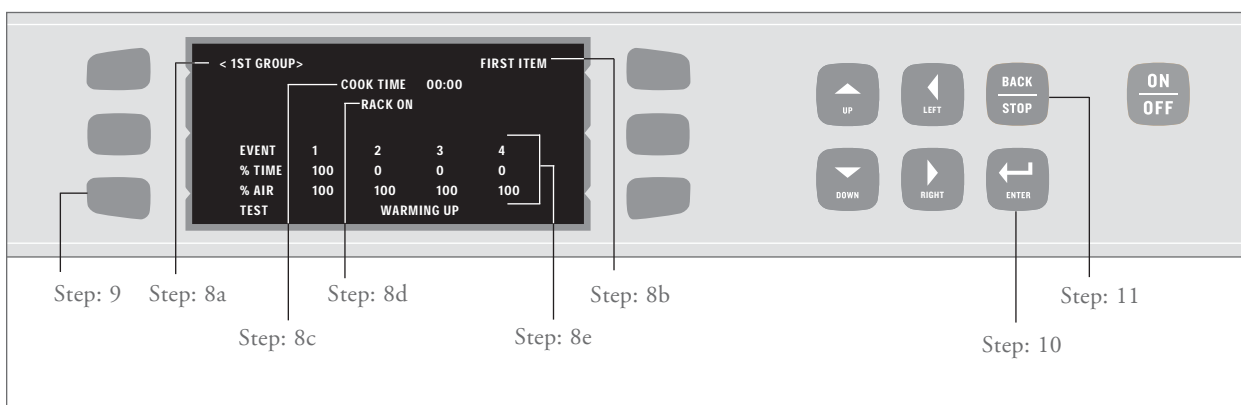

FIGURE 25: Modifying Recipes – Steps 8-11
8. From FOOD ITEM screen (Figure 25), the operator can: